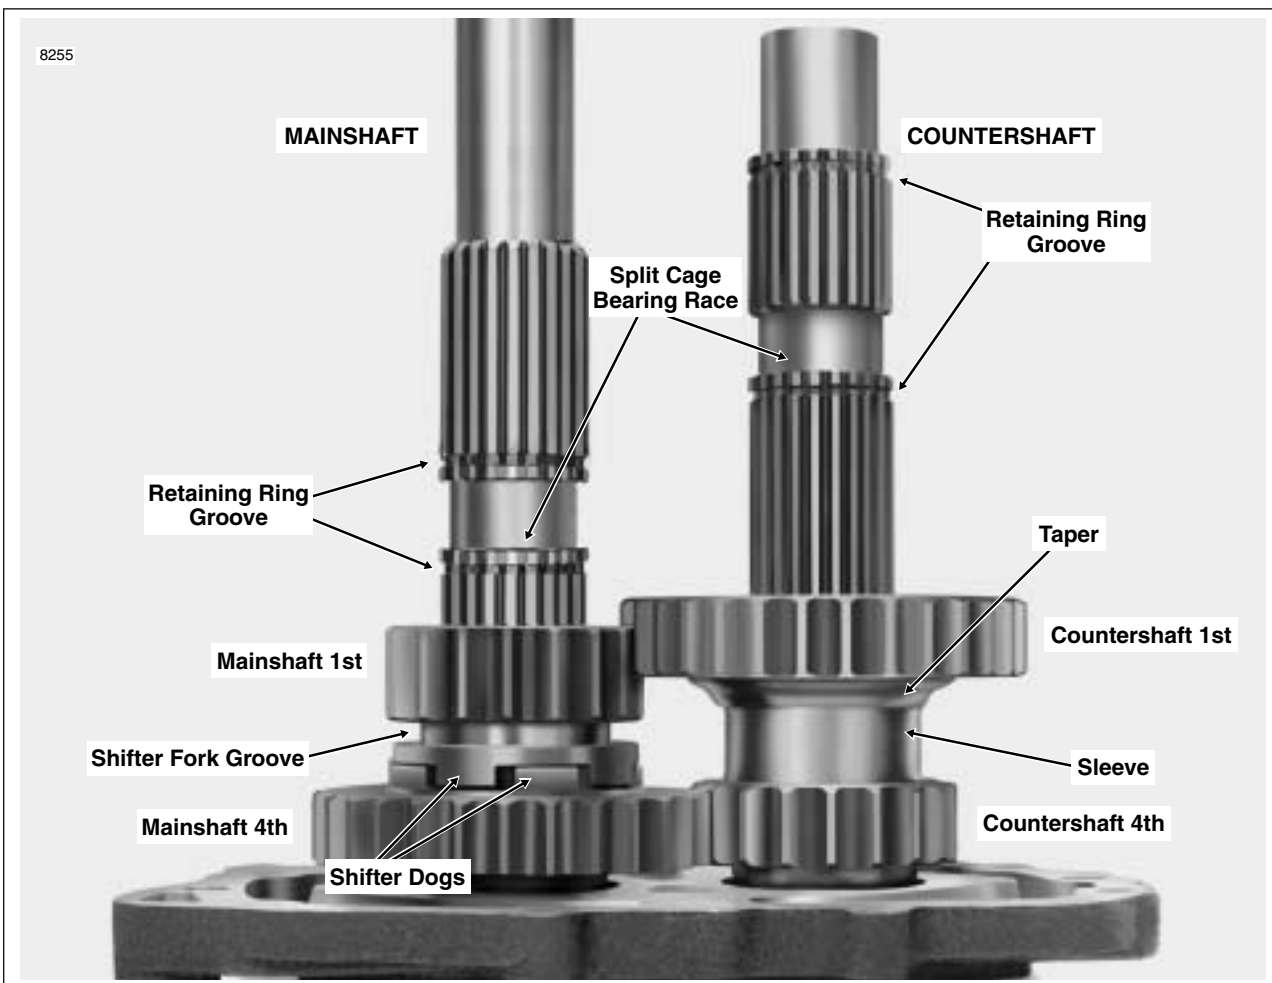

Figure 7-22. Install Mainshaft and Countershaft 1st and 4th Gears
2. See Figure 7-22. Install mainshaft 4th gear over the split cage bearing with the shifter dogs up. From the opposite end of the shaft, slide on the mainshaft 1st gear with the shifter fork groove facing the side door end of the shaft.
4. See Figure 7-22. Install countershaft 1st gear over the split caged bearing with the taper on the ID facing down (flat side up). From the same end of the shaft, slide on the countershaft 4th gear so that the sleeve contacts the taper of the countershaft 1st gear.